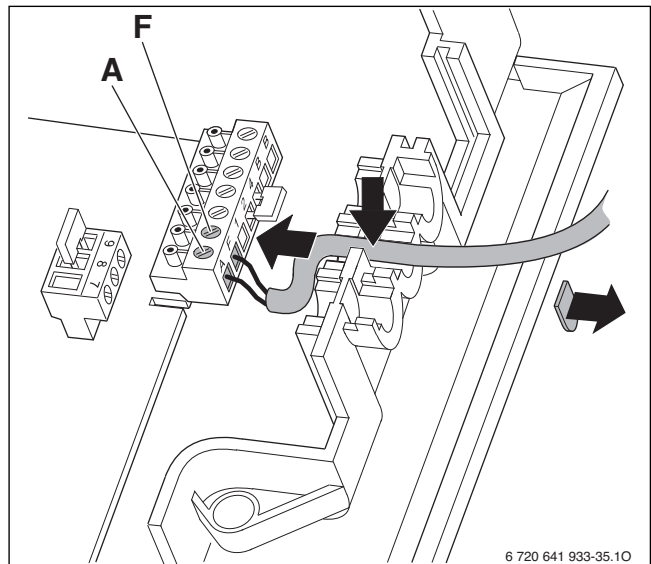

Fig. 44 Electrical wiring outdoor temperature sensor
- Connect cable of the outdoor temperature sensor according to Fig. 44.